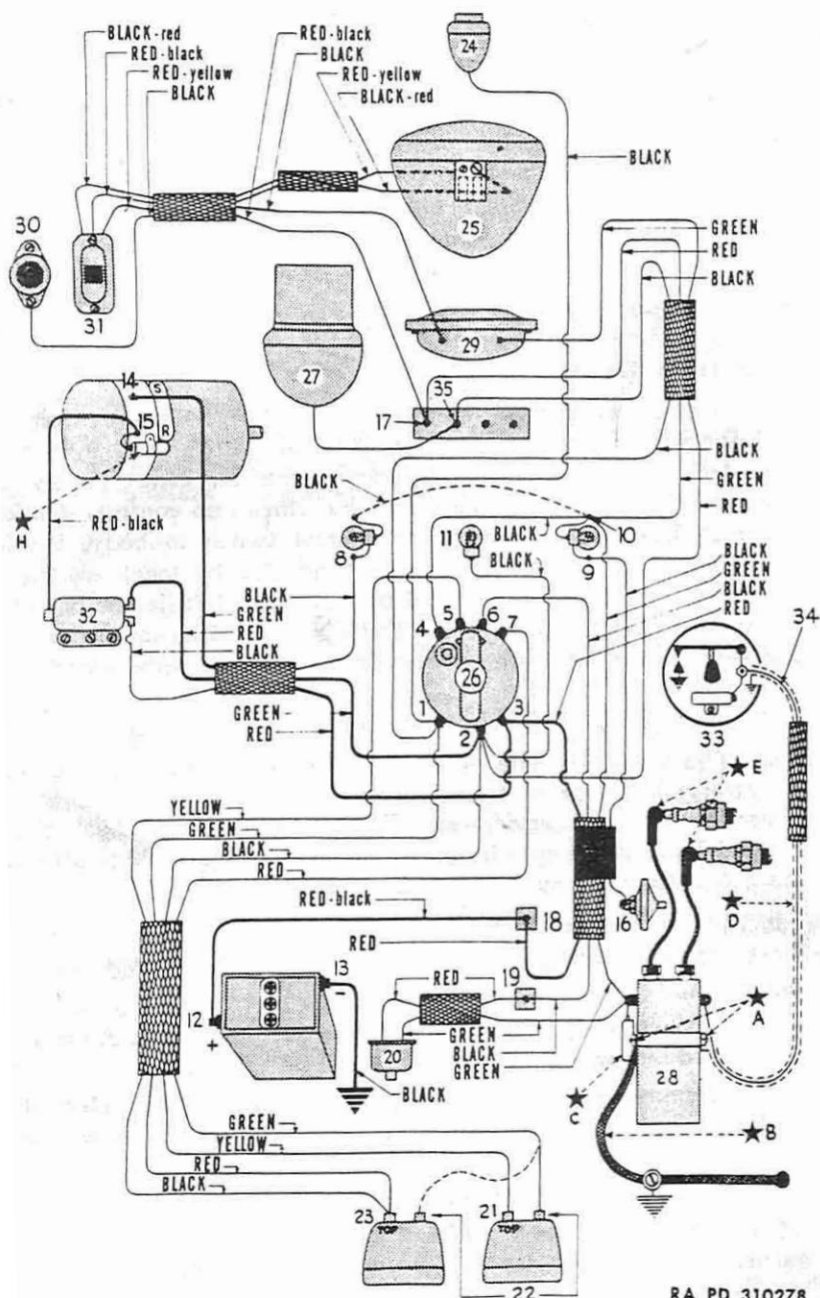
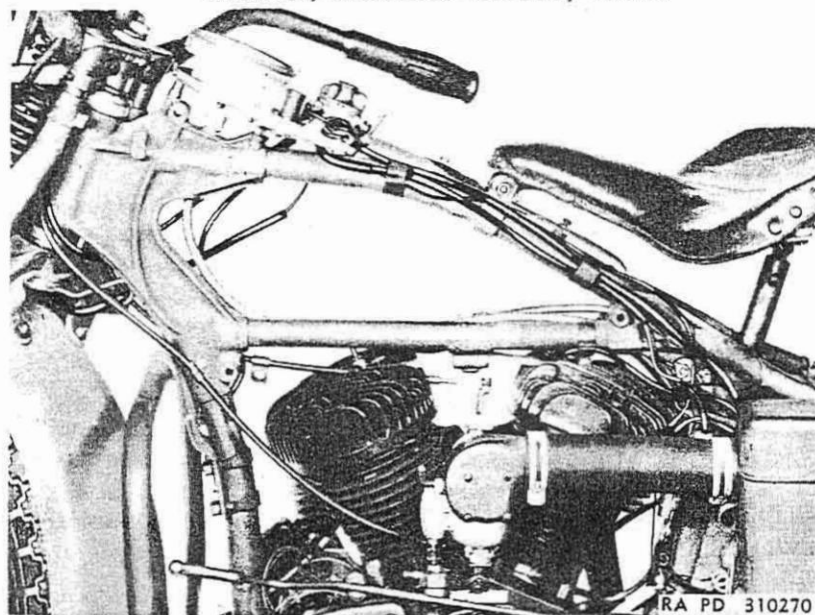

Figure 73—Complete Wiring Diagram
Figure 78—Wiring Cables, Left Side
Legend for Figure 73—Complete Wiring Diagram
c. **Stop and Taillight Switch.** This switch is operated by brake pedal and is located on end of rear support rod on right side of vehicle. Refer to wiring diagram (fig. 73) and paragraph 118 for wiring connections.
c. **Install.** Mount switch on instrument panel base. Install four screws and spacers. Connect wires (fig. 73). Connect battery negative ground wire to frame. Turn switch on. Check lights and horn, tactical situation permitting. Install instrument panel cover (par. 119).
a. **Description.** Horn is mounted to headlight bracket by means of four bolts, lock washers, and nuts. One horn terminal is connected with operating button, and other terminal is connected to No. 4 ignition and light switch terminal (fig. 73).
a. **Cable System.** Since ignition and lights are controlled by the ignition and light switch, all wires terminate at the ignition and light switch. Cables for wire protection are used, making it necessary to replace cables rather than individual wires. A study of figure 73 will be helpful when removing or installing any of the wiring cables. Also study figures 78 and 79 and note how cables are arranged on frame, and how they lead to the switch panel.